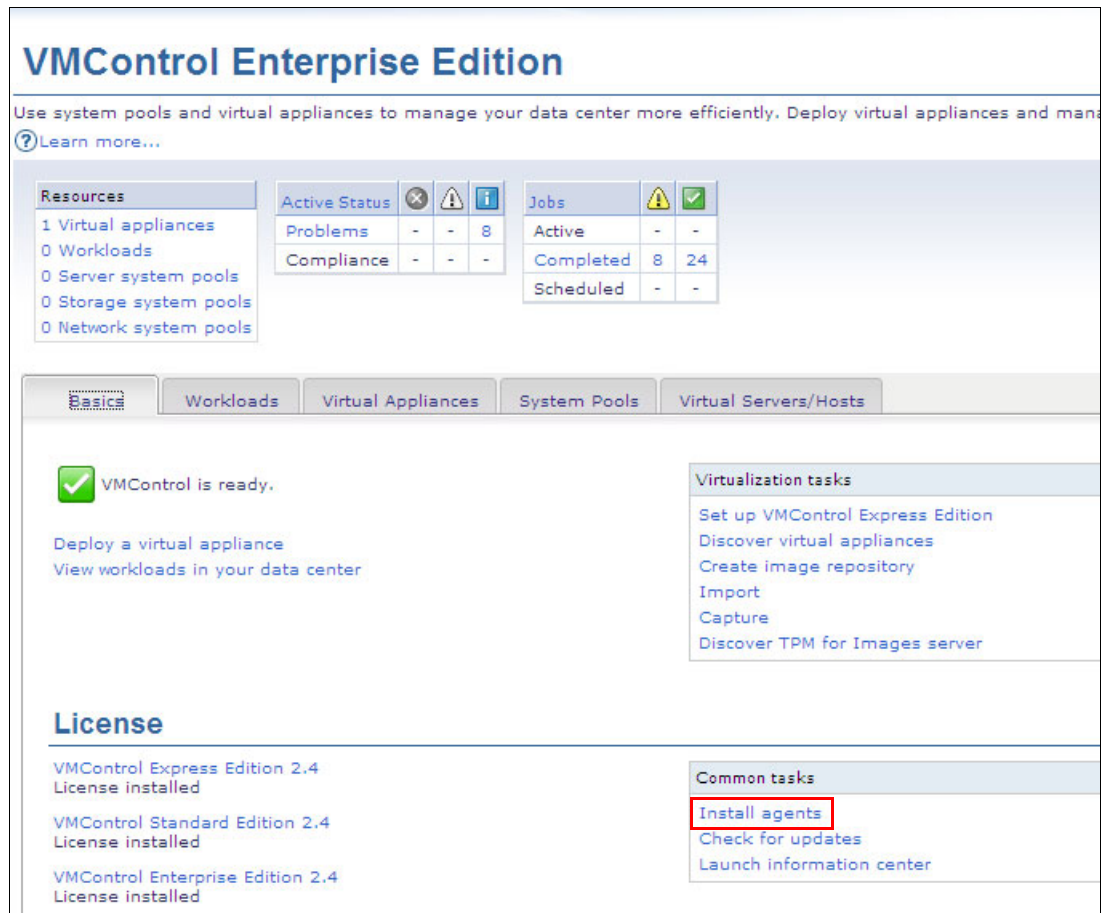

Figure 10-85 Clicking Install agents
1. Click **Install agents** as shown in Figure 10-85.